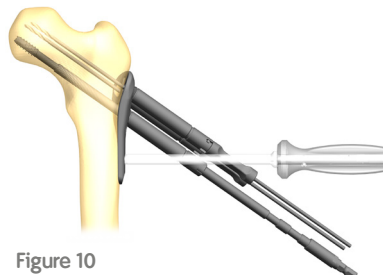

Figure 10
11. Tap using the Proximal Screw Tap - Compression (7117-9219) with the Screwdriver Handle (7117-9213) (Figure 10).